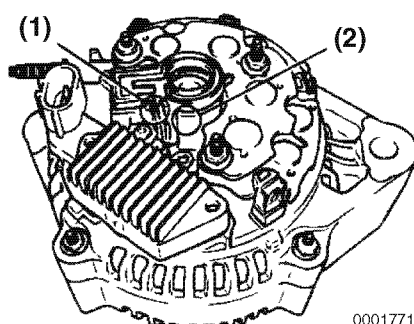

Figure 11-25
Note: **Figure 11-25** shows a brush holder cover installed incorrectly. The brush holder tab is detached from the holder cover groove (**Figure 11-25, (1)**) and the inner part of the holder cover is pinched (**Figure 11-25, (2)**).